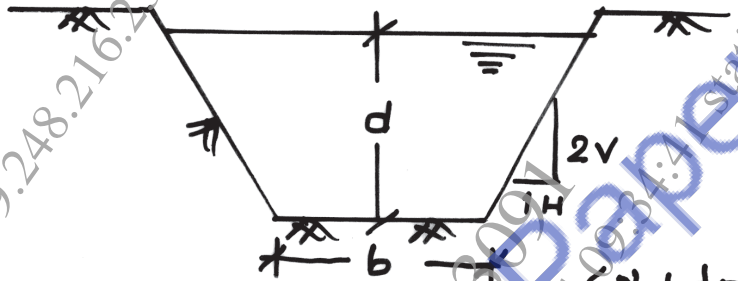

Figure 6(a)
- Q6) a) A trapezoidal channel has side slope of 1 horizontal to 2 vertical and slope of its bed is 1 in 1500. The area of the section is 40 m^2 . Find the dimensions for the channel sections if it is most economical as shown in Figure 6 a. Take Chezy's constant as 80. [6]